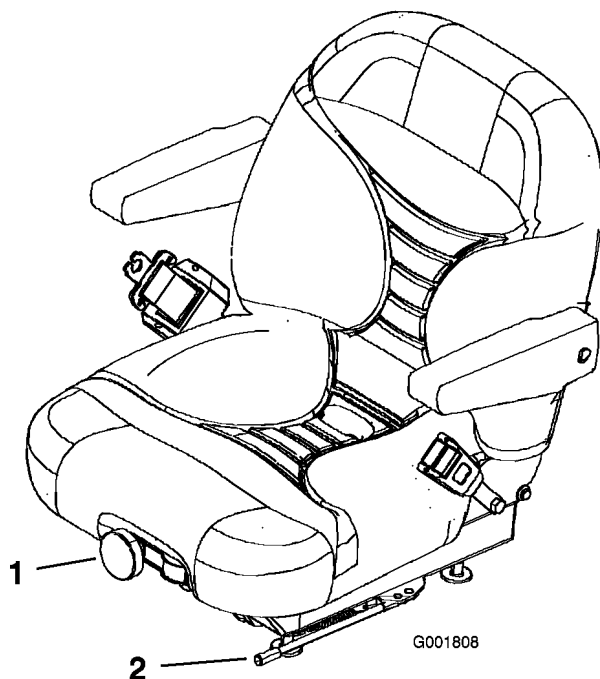

Figure 22
1. To adjust, move the lever sideways to unlock seat (Figure 22).
To adjust it, turn the knob in front either direction to provide the best comfort (Figure 22).